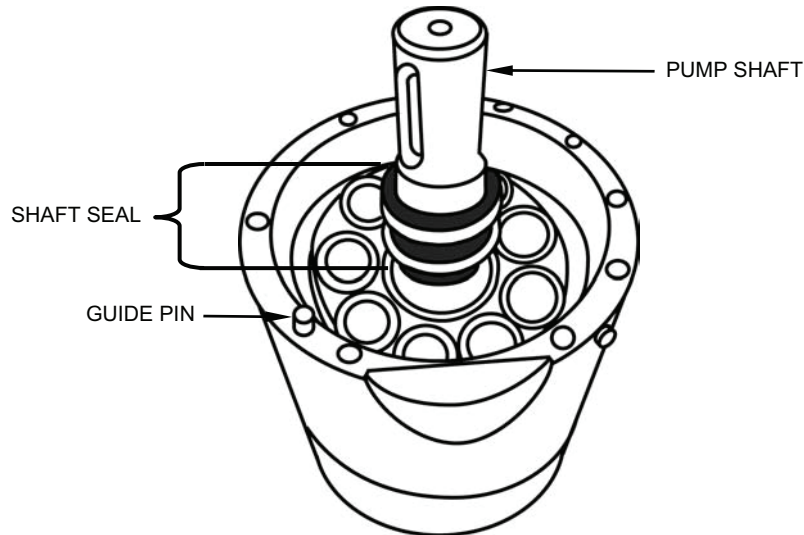

Figure 23. Mounting Flange Removed from Pump.
- g. Remove and retain the guide pin from the pump casing or the mounting flange (see Figure 23). (If the pin is not in the pump casing, it may have come out with the mounting flange.)
- h. Wet the pump shaft and shaft seal with glycerin (see Figure 23).